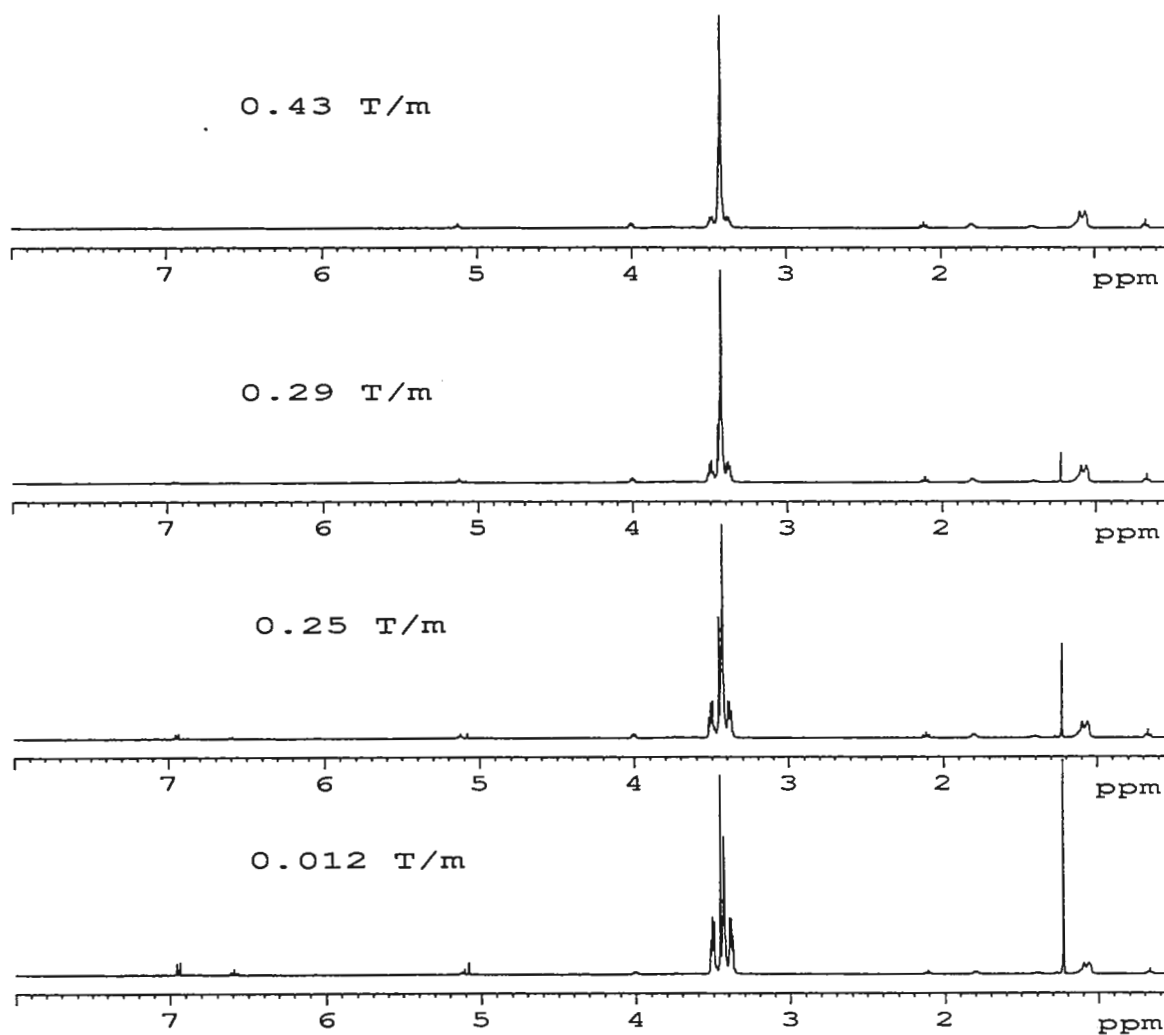

Figure 1: PFG NMR spectra of a mixture of DTBP, TEG & POESMO recorded at different gradient amplitudes.
For example, in a mixture containing triethylene glycol (TEG), di-tertiary butyl phenol (DTBP) and polyoxyethylenesorbitan mono-oleate (POESMO), the resonance signals due to the ethoxylated units of TEG and POESMO are highly overlapped in the region 3-4 ppm. This overlap does not allow the estimation of number of ethoxylated (EO) units present in POESMO, unless it is physically separated from TEG. The separation of such type of components is not straightforward. However, the objective may be achieved using PFG NMR. The conditions of the PFG NMR experiments can be established, wherein, at higher gradient amplitudes, the resonance signals of the faster diffusing components (both TEG & DTBP) can be eliminated from the spectrum, allowing the observation of a clean spectrum of only POESMO. Figure 1 shows the stacked plot comparison illustrating spectral editing for this mixture. In the spectrum using the highest gradient strength, the ratio of the spectral intensity in the region 3-4 ppm with respect to that of 0.85 ppm (terminal methyl of oleate unit) matches exactly with that expected for pure POESMO component.